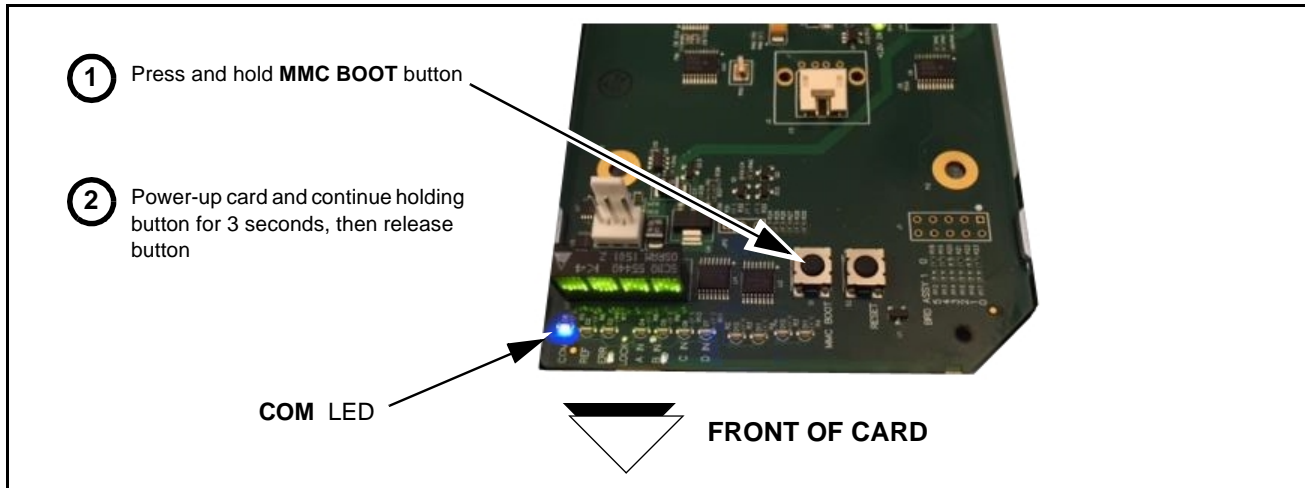

Figure 3-11 MMC Boot Button
2. (See Figure 3-11.) With device powered-down, locate the **MMC BOOT** button on the card. Proceed as shown in picture.